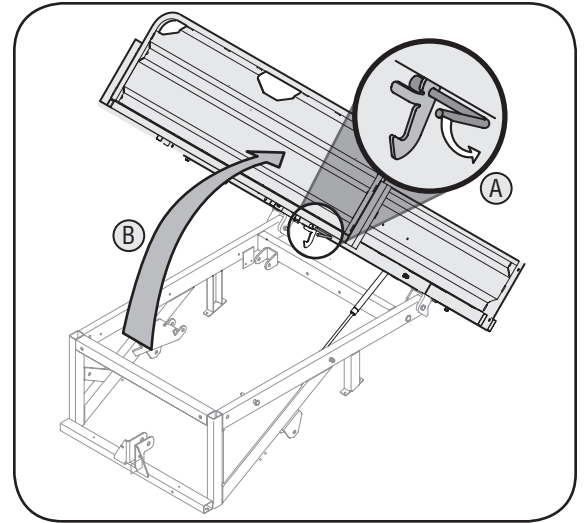

Figure 14
2. Empty cargo by hand and unlatch cargo box by pushing down on the cargo latch. See (A) Figure 14.
3. While holding the latch down, lift the cargo box (B).